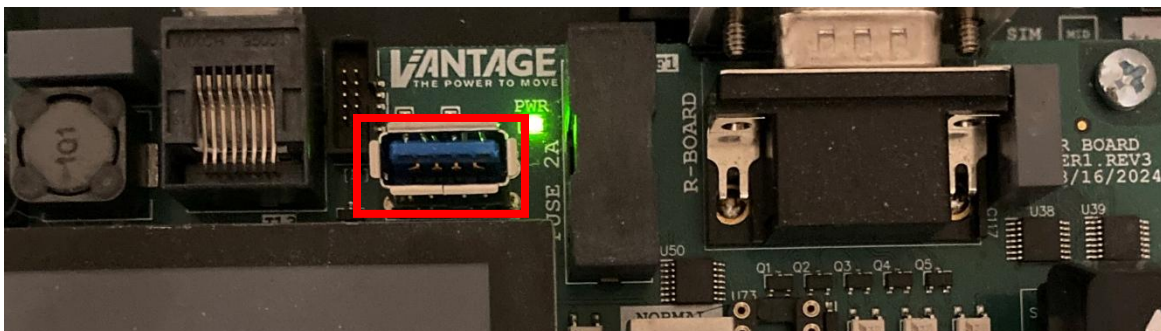

Figure 41: Insert USB on the MR or CT board USB slot
On the MR screen, select the firmware file (1), and the nodes to be flashed (2). Once the selections have been confirmed, please press the “Update firmware” button (3). See figure 41 to identify the different UI components on the bootloader menu.